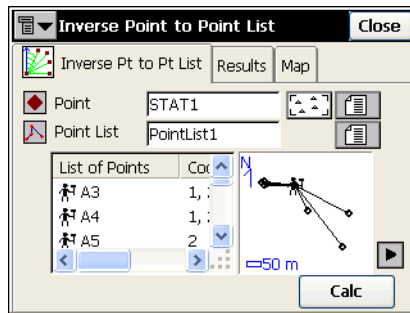

Figure 8-2. Inverse Point to Point List
1. Select a point and a point list (Figure 8-2).